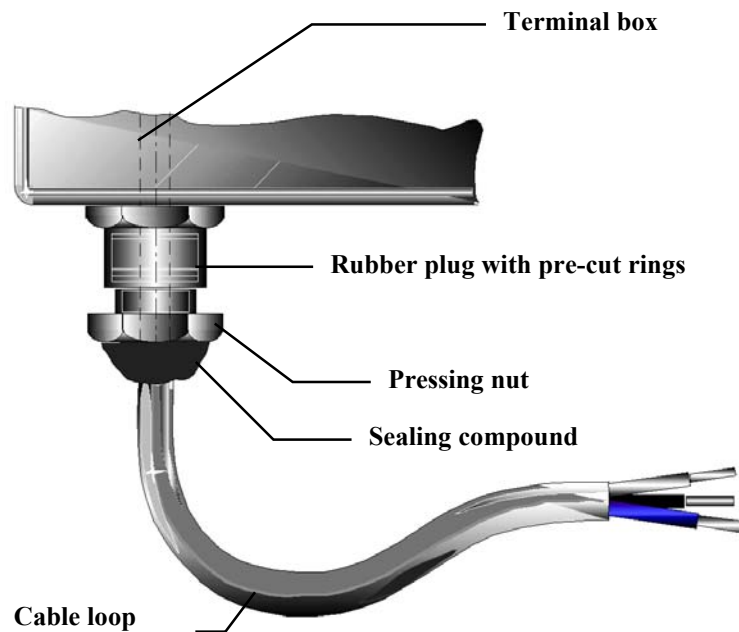

Fig. 4 Sealing of Cable Inlet at Terminal Box
- Introduce cable into motor terminal box and connect control and regulation devices according to Fig. 4. All these works to be carried out carefully.